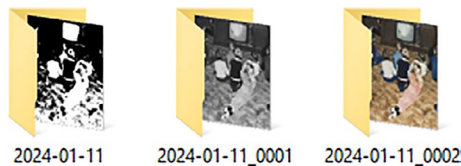

Figure 1-22. *Subfolders containing individual scans*
- b. Should each image be stored in a unique, created subfolder using today’s date so that you can review them later. Refer to Figure 1-22.